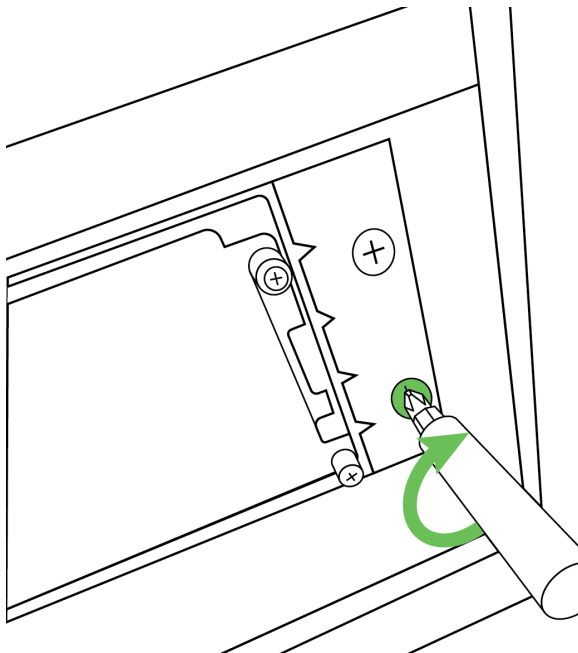

Figure 6-40. Securing the UPS
6. Secure the L-bracket to the rack mount of the setup box by using the bracket mounting screws (Figure 6-40).